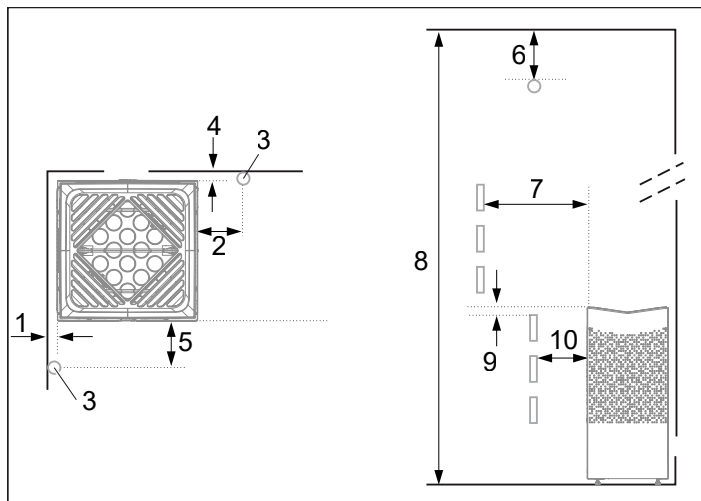
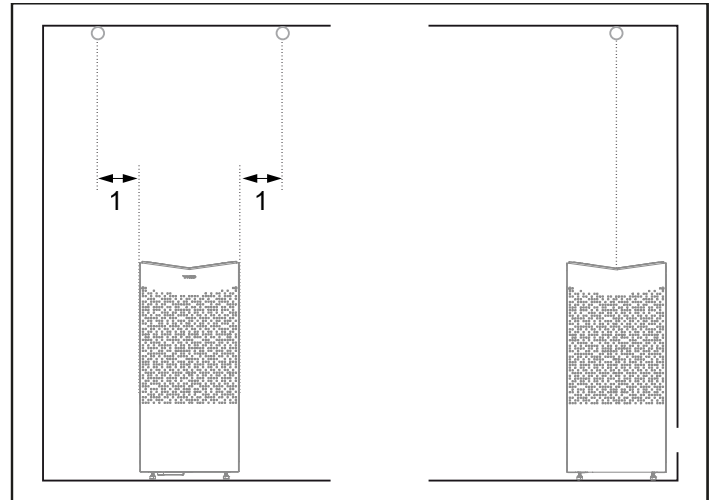

Figure 3: Positioning the heater - normal installation
Figure 4: Sensor installation on ceiling
- Plan the sauna heater positioning (see the Heater positioning - normal installation section, Figure 3).
- Plan the sensor positioning (see Figure 3 and Figure 4).
- Position the heater at a safe distance from the floor, side walls and interior fittings (see Figure 3).
Position the sensor according the picture (see Figure 3). Shut any active air inlet with in 1000 mm from the sensor,
If the wall on which the sensor is to be installed is made of highly heat-absorbing material (e.g. concrete, brick, etc.), or of hardened glass, the sensor may be installed in the ceiling at a distance from the heater, according to Figure 4.